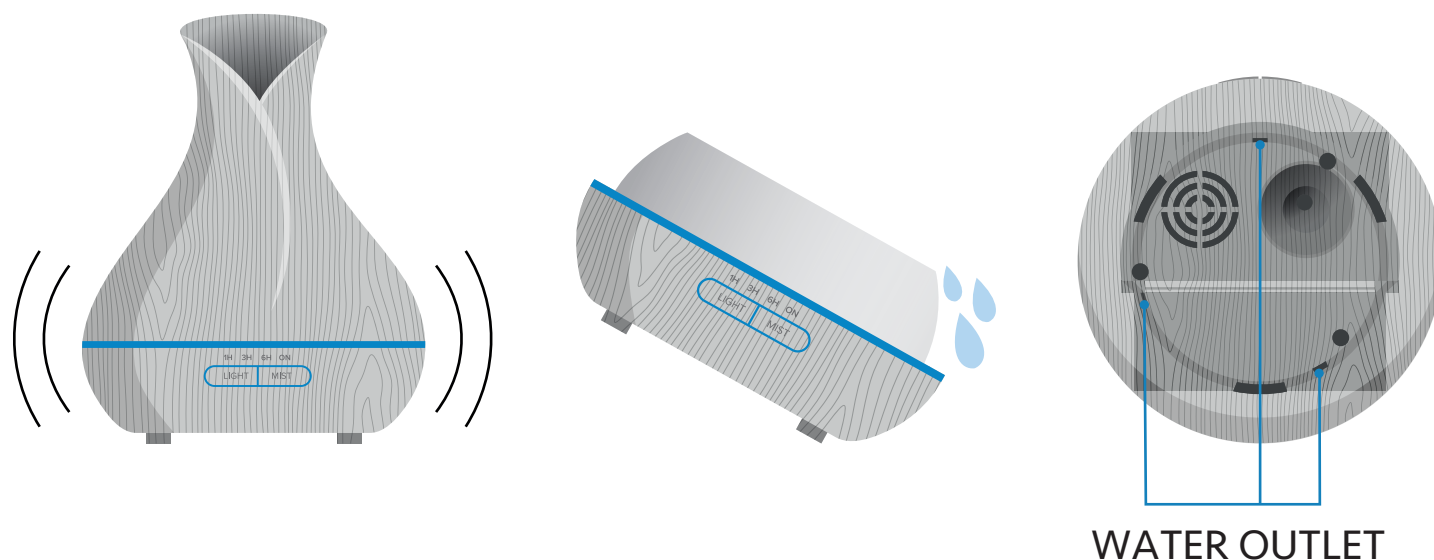

Fig. 7
- 2 Pour out any remaining water from any side of the water tank except the 400ml Max fill line to avoid damaging the control buttons. (Fig. 7)
- 4 Keep water from flowing into the three air outlets located on the bottom of the water tank, by pouring water out using the sides of the water tank. Refer to above image for example. (Fig. 7)